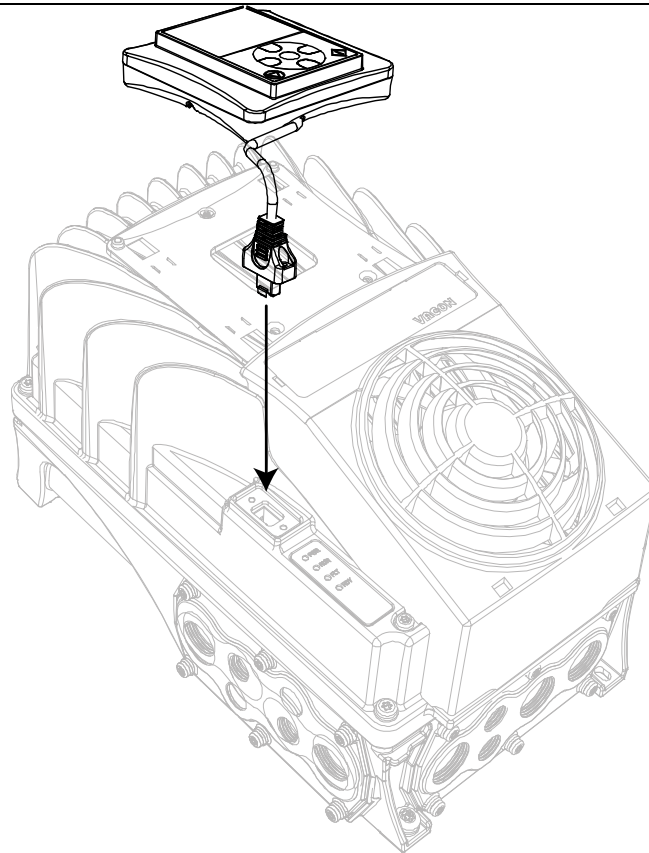

Figure 53. Mounting of the keypad
- Connect the keypad to the drive and plug the cable on the HMI connector as shown in the Figure 53 and in the Figure 54.